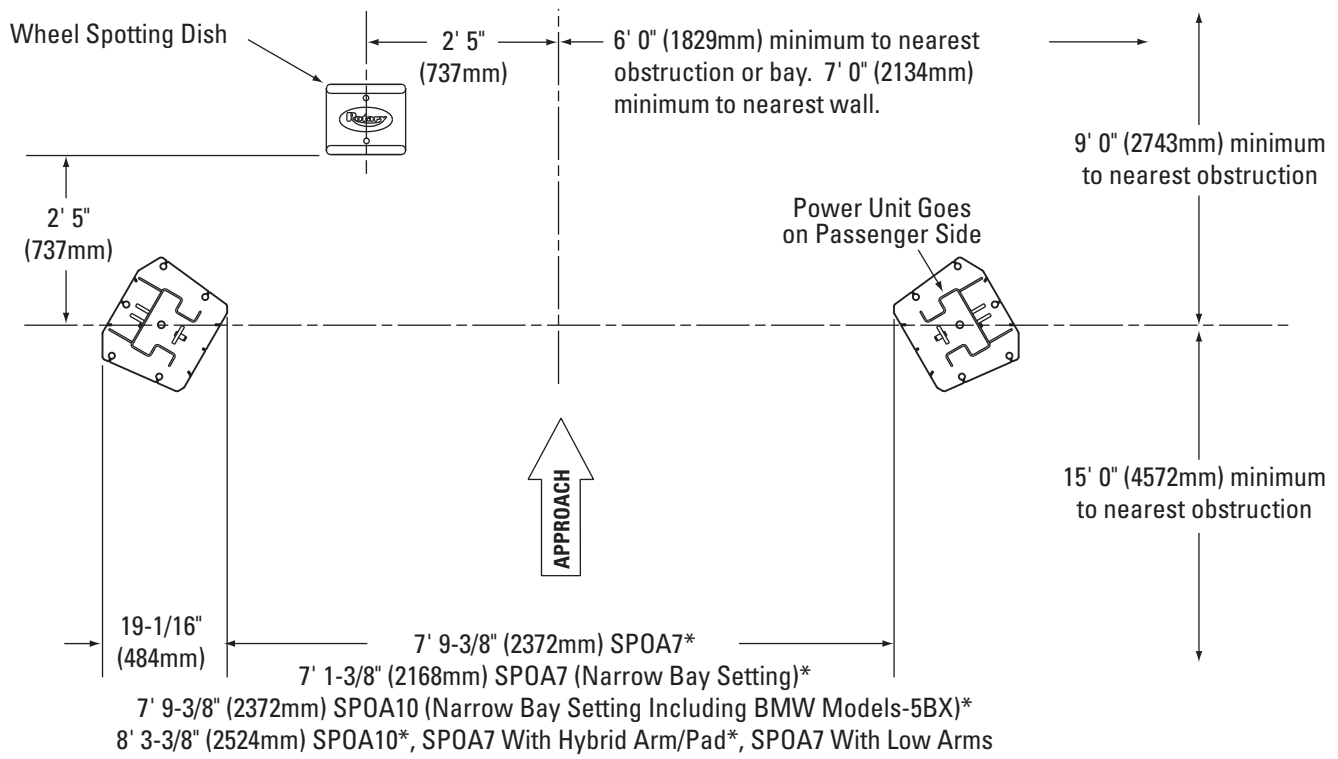
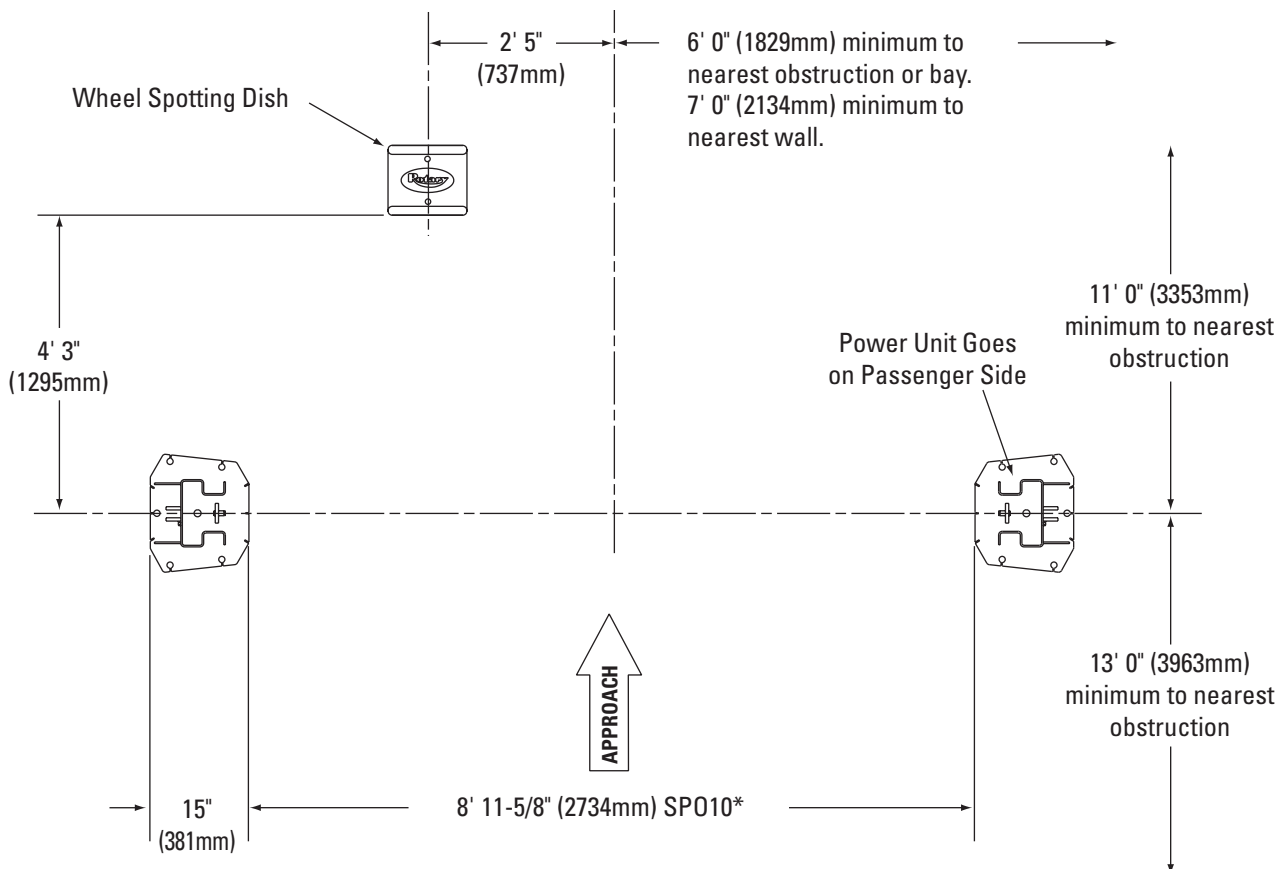
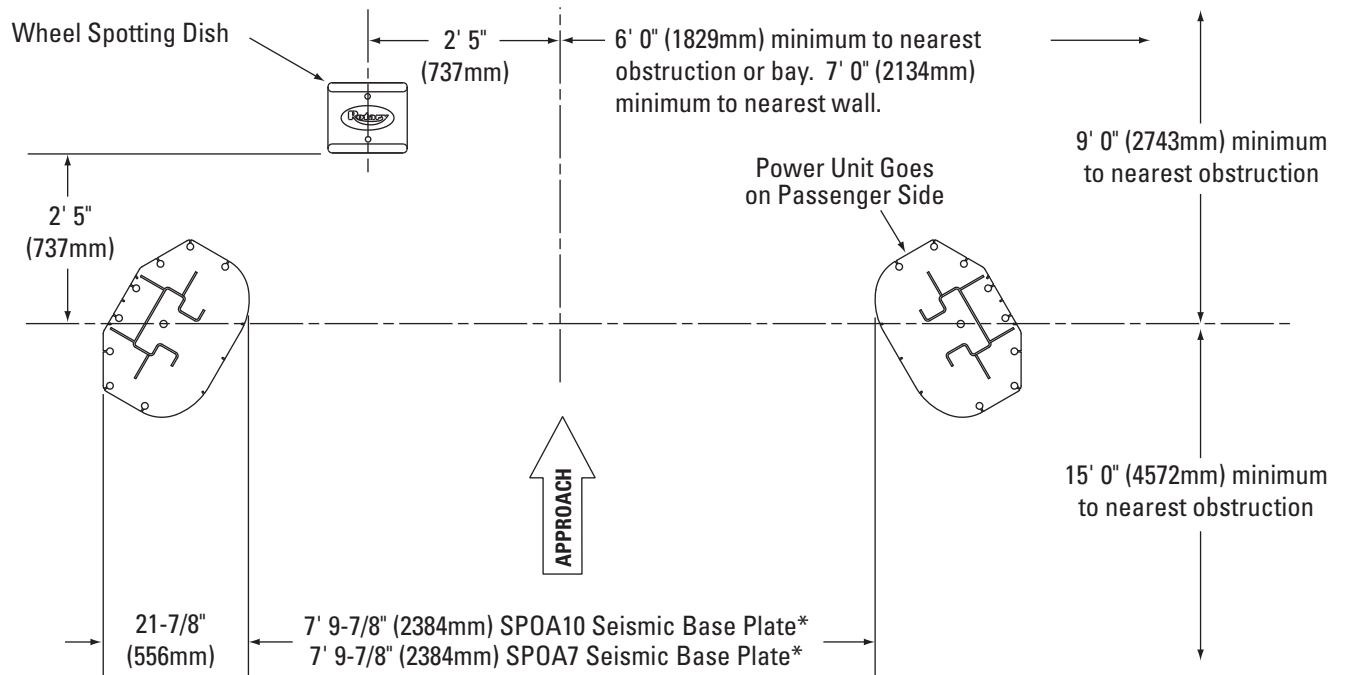
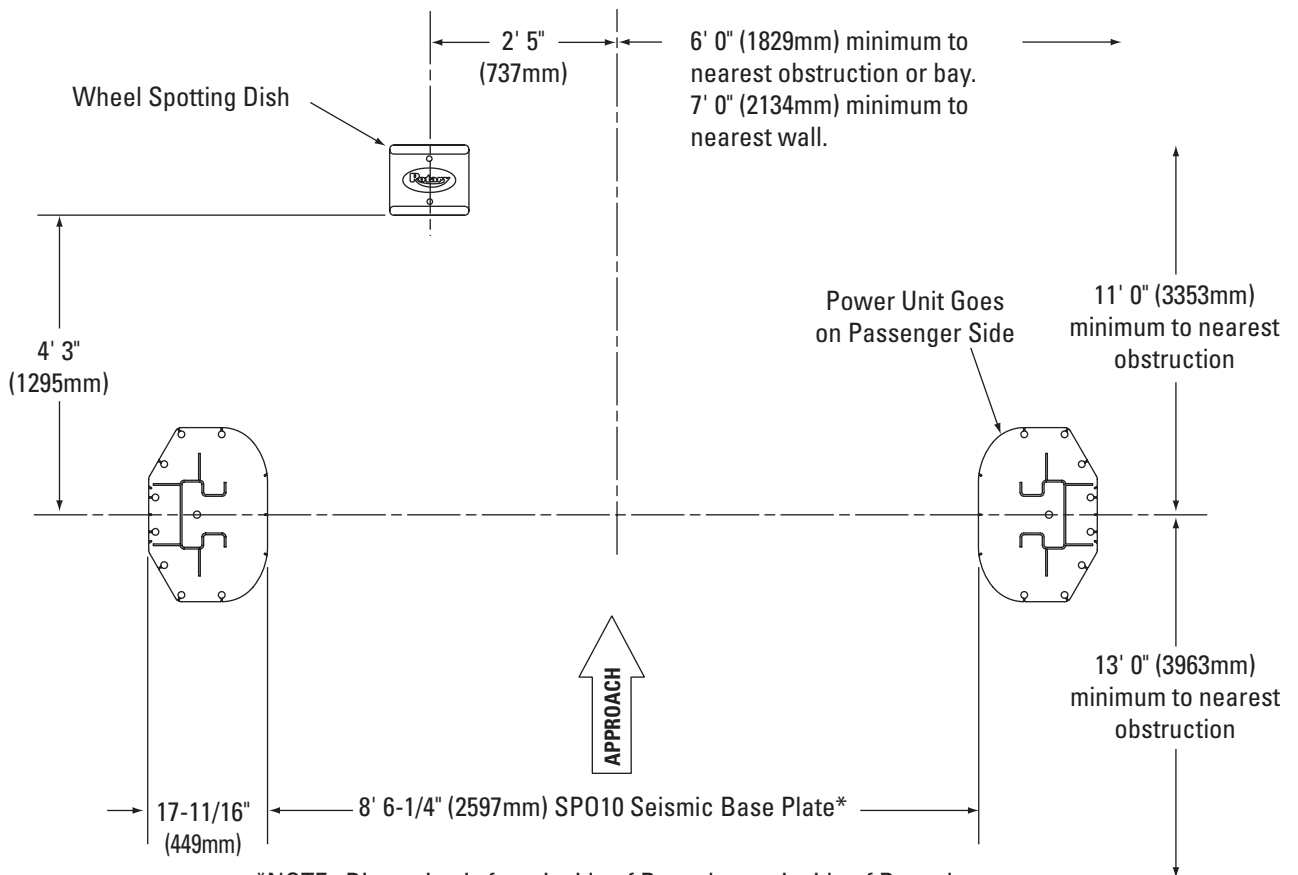

Fig. 1a
Fig. 1b
Fig. 1c
Fig. 1d
1. Lift Location: Use architects plan when available to locate lift. Fig. 1a, Fig. 1b, Fig. 1c, Fig. 1d, shows dimensions of a typical bay layout.
6. Lift Setting: Position columns in bay using dimensions shown in Fig. 1a & Fig. 1b. Place column with power unit mounting bracket on vehicle passenger side of lift. Both column base plate backs must be square on center line of lift. Notches are cut into each base plate to indicate center line of lift. Use appropriate equipment to raise carriage to first latch position. Be sure locking latch is securely engaged.